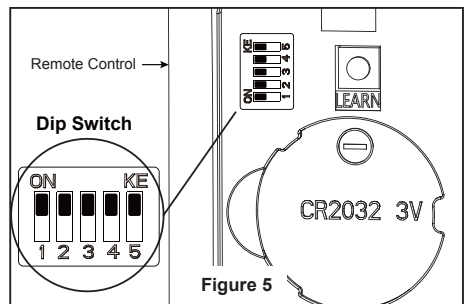

Figure 5
5. To set the remote code in the same positions as the receiver, use a small screwdriver or ball point pen (neither included) to slide dip switches firmly up or down. (Figure 5)